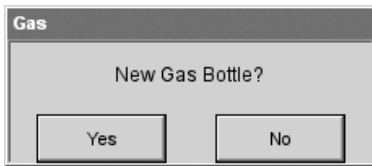

Fig. 2-9 New Gas Bottle
- When this display appears (Fig. 2-9), press to install a new gas bottle.